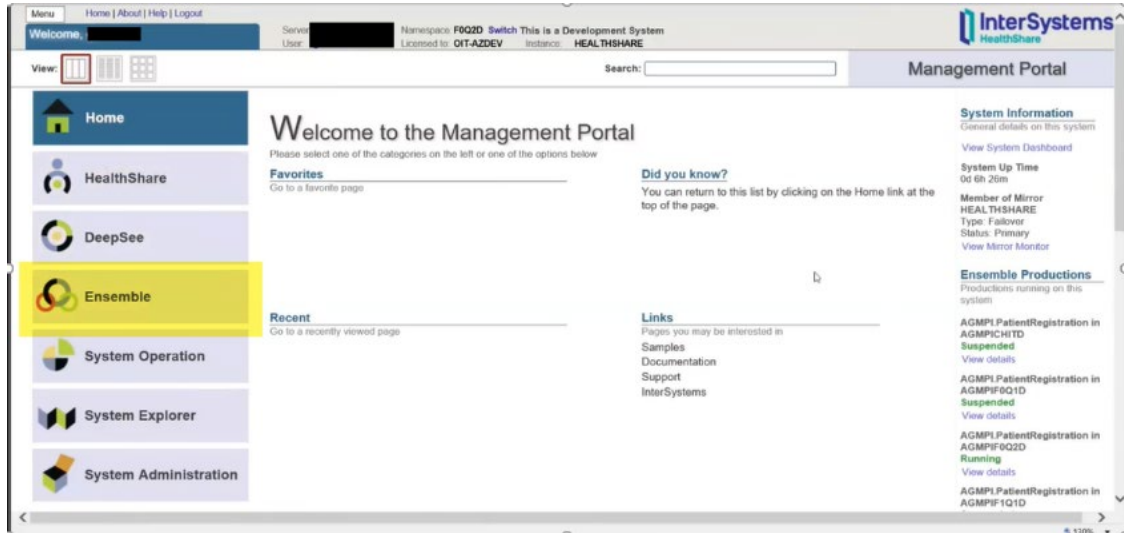

Figure 2-1: Ensemble button
1. Click on the **Ensemble** button in the menu list on the left of the Management Portal page (Figure 2-1, yellow highlight).